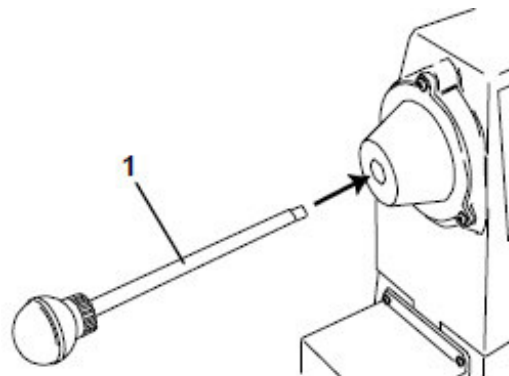

Fig. 8: Removing the centre point
- Step 2: Insert the locating rod (item 1, Fig. 8) through the spindle hole to loosen the centre point.